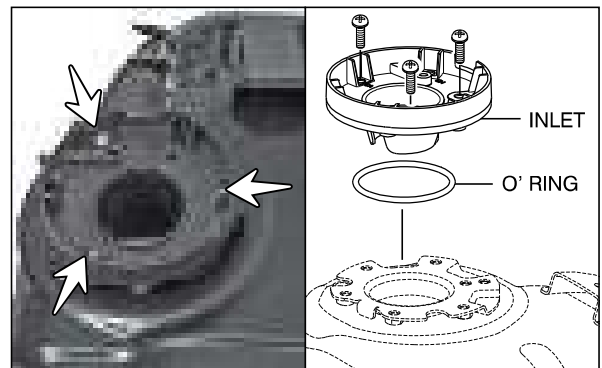

Fig. 2.23
- Remove the CRR pan head screw (M5x12 - 3 nos.) from the mounting of inlet fuel tank complete and take out the inlet along with the 'O' ring. (Fig. 2.23)